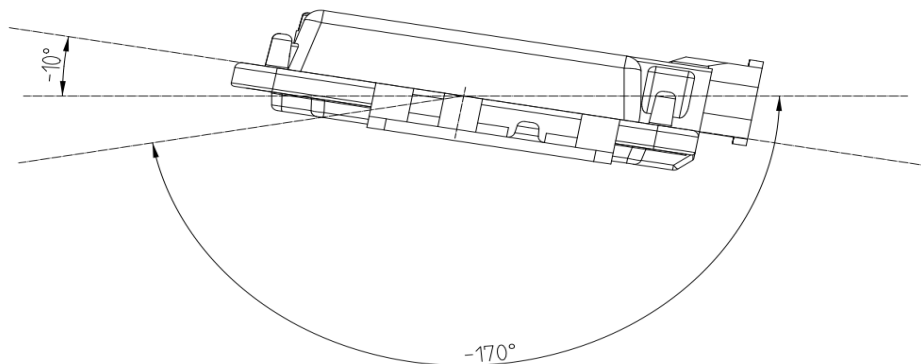

Figure 13 Horizontal Installation Angle
7. VCU should be installed in the horizontal and vertical position according to the connector downwards and maintain a certain angle to prevent water from entering the connector. In the horizontal direction, the recommended installation angle is  $-170^{\circ}$  to  $-10^{\circ}$ , as shown in Figure 13 below. In the vertical direction, the recommended installation angle is  $-170^{\circ}$ ~ $-10^{\circ}$ , as shown in Figure 14 below.